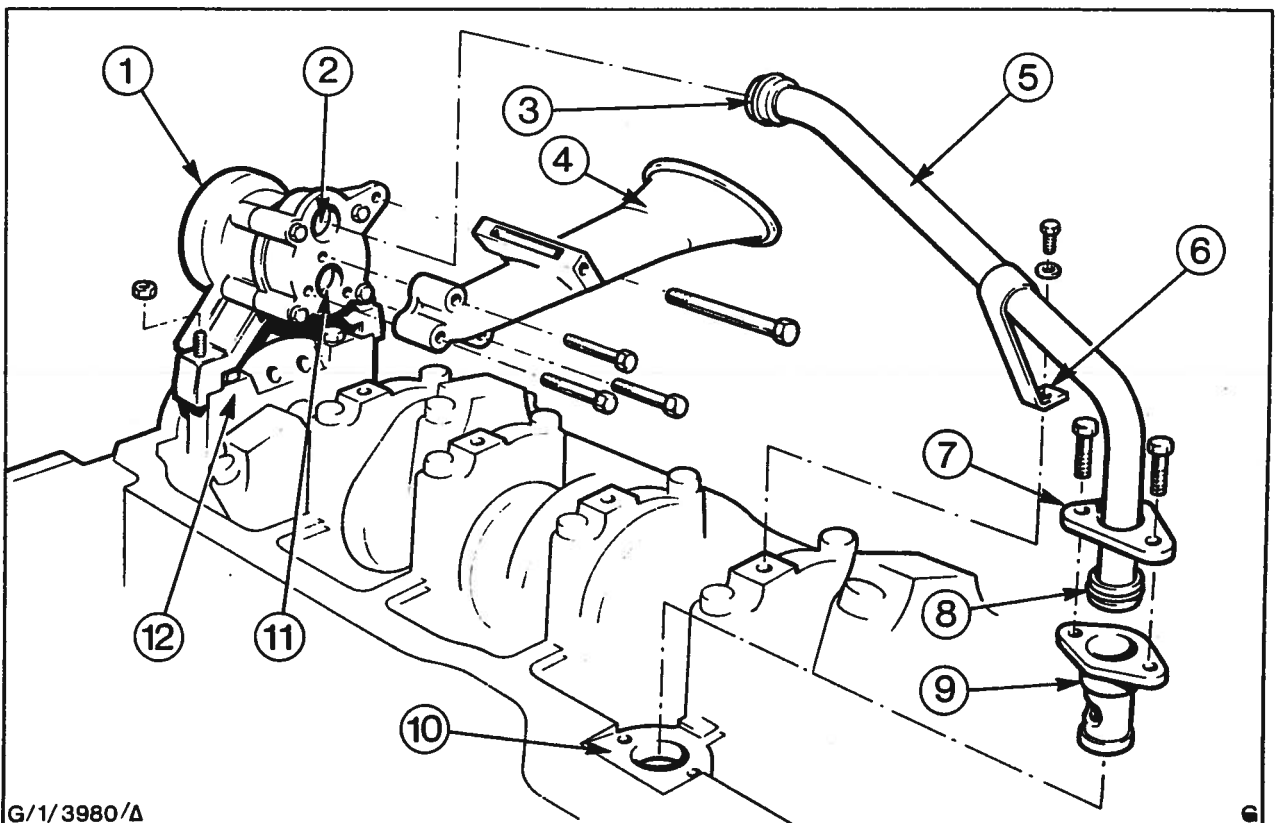

Fig. 24 - Oil Pump Removal/Replacement - 2728T Engines
38. Unscrew the bolts securing the pick-up pipe to the pump and withdraw the pipe from the pump - see Fig. 24. Remove the bolts securing the delivery pipe to the cylinder block and remove the delivery pipe and the adaptor. Remove the nuts securing the oil pump to the front main bearing cap and carefully remove the pump and idler gear assembly.